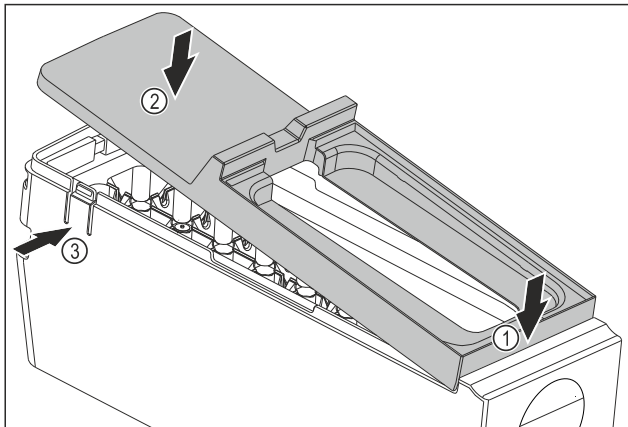

Fig. 108
- ▶ Installing the EasyTwist-Ice body cover: Place the cover on the front. Fig. 108 (1)
- ▶ Lower the cover at the rear. Fig. 108 (2)
- ▶ The cover locks into both tabs Fig. 108 (3) audibly.